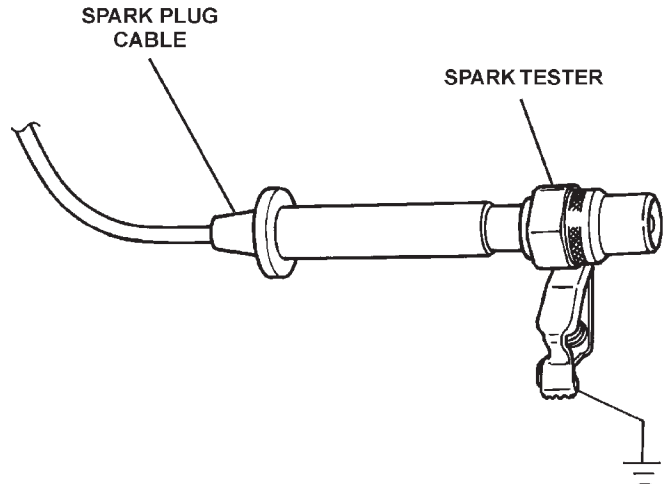

Fig. 18 Testing For Spark
(1) Insert a new spark plug into the new spark plug boot. Ground the plug to the engine (Fig. 18). Do not hold with your hand.
(2) Starting with coil insulator #1, remove it from the DIS coil.
(3) Plug the test spark plug cable onto #1 coil tower. Make sure a good connection is made; there should be a click sound.
(1) Insert a new spark plug into the new spark plug boot. Ground the plug to the engine (Fig. 18).